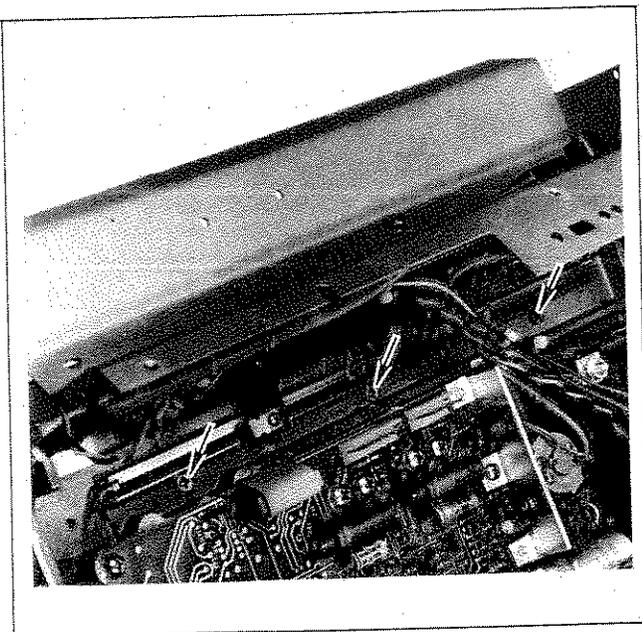

Figure 8-3. X-Axis Potentiometer Replacement
- f. Loosen three screws along side of potentiometer. (See Figure 8-3.)
- g. Partially ease out X-axis balance potentiometer. (See Figure 8-3.)